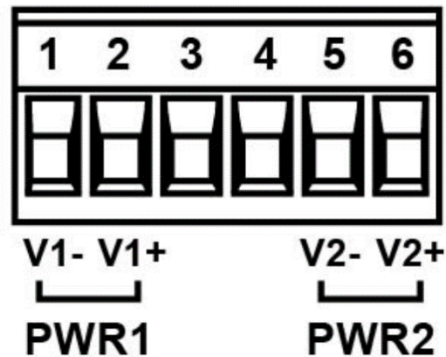

Figure 2.10: Power Terminal Block
Step 1. Insert the positive and negative wires into the PWR1 (V1+, V1-) and PWR2 (V2+, V2-) contacts on the terminal block connector as shown below in Figure 2.10.